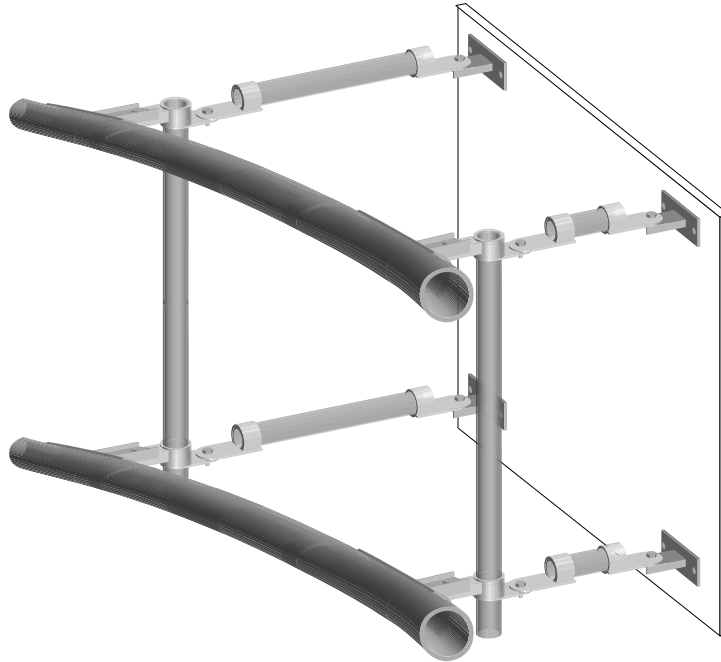

Figure 5: Wall mount for curved screen
9. Curved frames use support tubes of different lengths (shorter in the center, longer at the end of the screen). Refer to Figure 5.